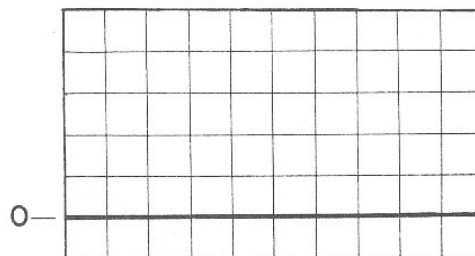

Fig. 6A - Establish Zero Reference
3. Align the trace with a horizontal graticule (see Fig. 6A).